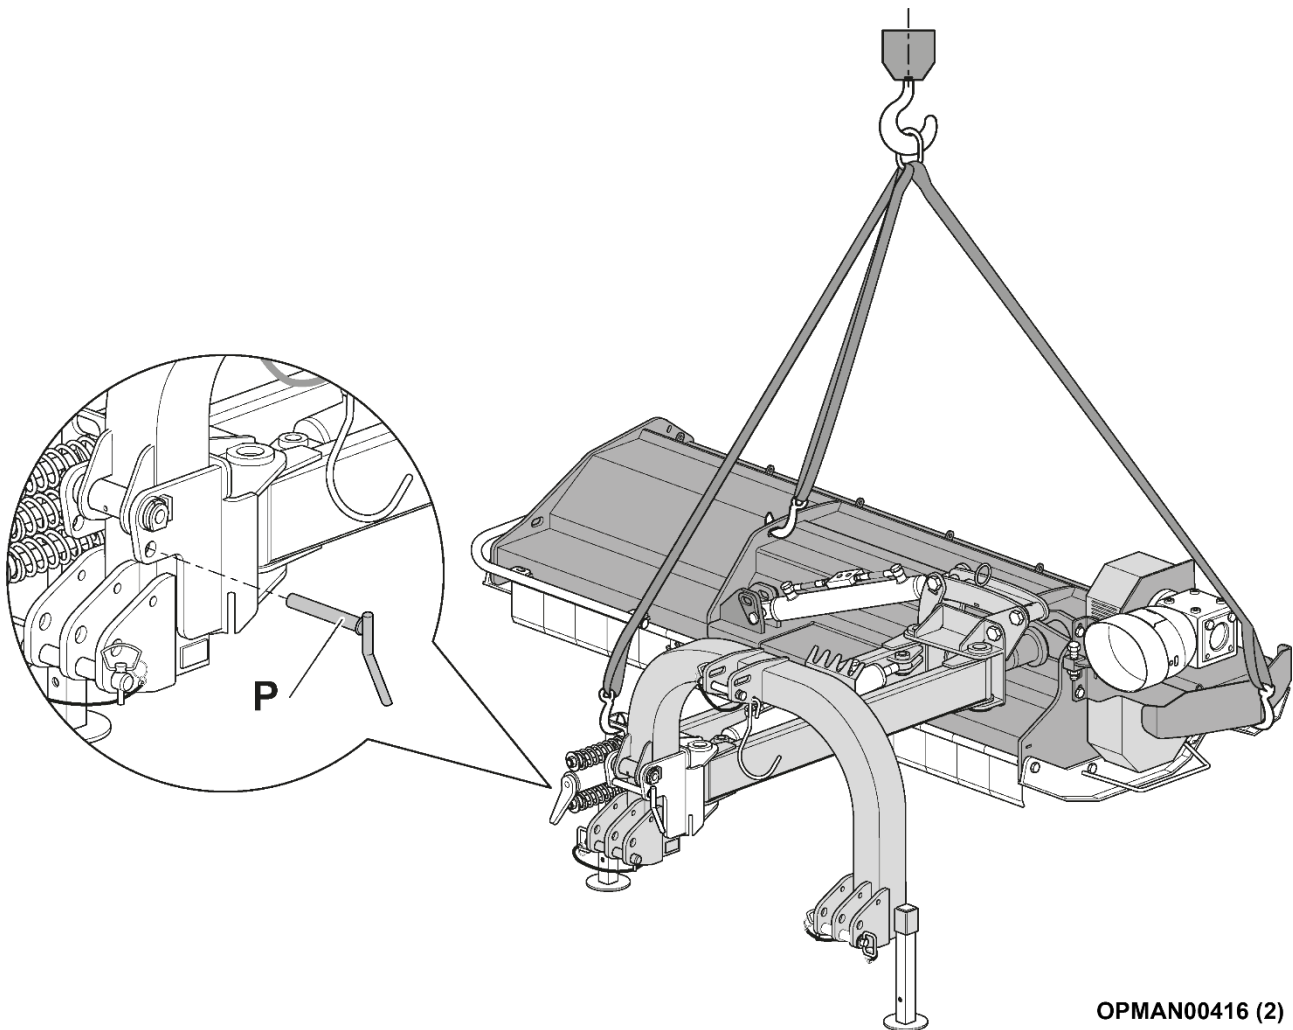

Figure 7
The Mower is supplied fully assembled and protected with a "heat-shrink" plastic cover. Handles protrude from the cover for lifting and vertical handling of the mower with straps or cables able to withstand the machine's weight, as illustrated in Figure 7.
When transporting the Mower, **it is mandatory** to insert the pin (P) to lock the parallel arms shown in Figure 7.
The Mower features a gearbox with a 1" 3/8 spline power take-off that can be adapted to any agricultural tractor PTO with an input PTO shaft. On first installation simply remove the machine from its packaging, remove the pin (P) which locks the parallel arms (Figure 7) and proceed to the proper preparation of the machine.